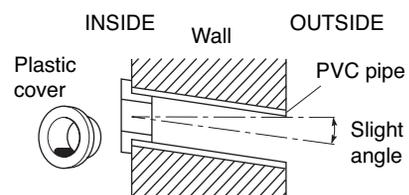

**Fig. 3-26**
- (4) Using a sabre saw, key hole saw or 3-5/32 in. hole-cutting drill attachment, make a hole in the wall. The required minimum hole diameter for these models is 3-3/16 in. (Fig. 3-26)